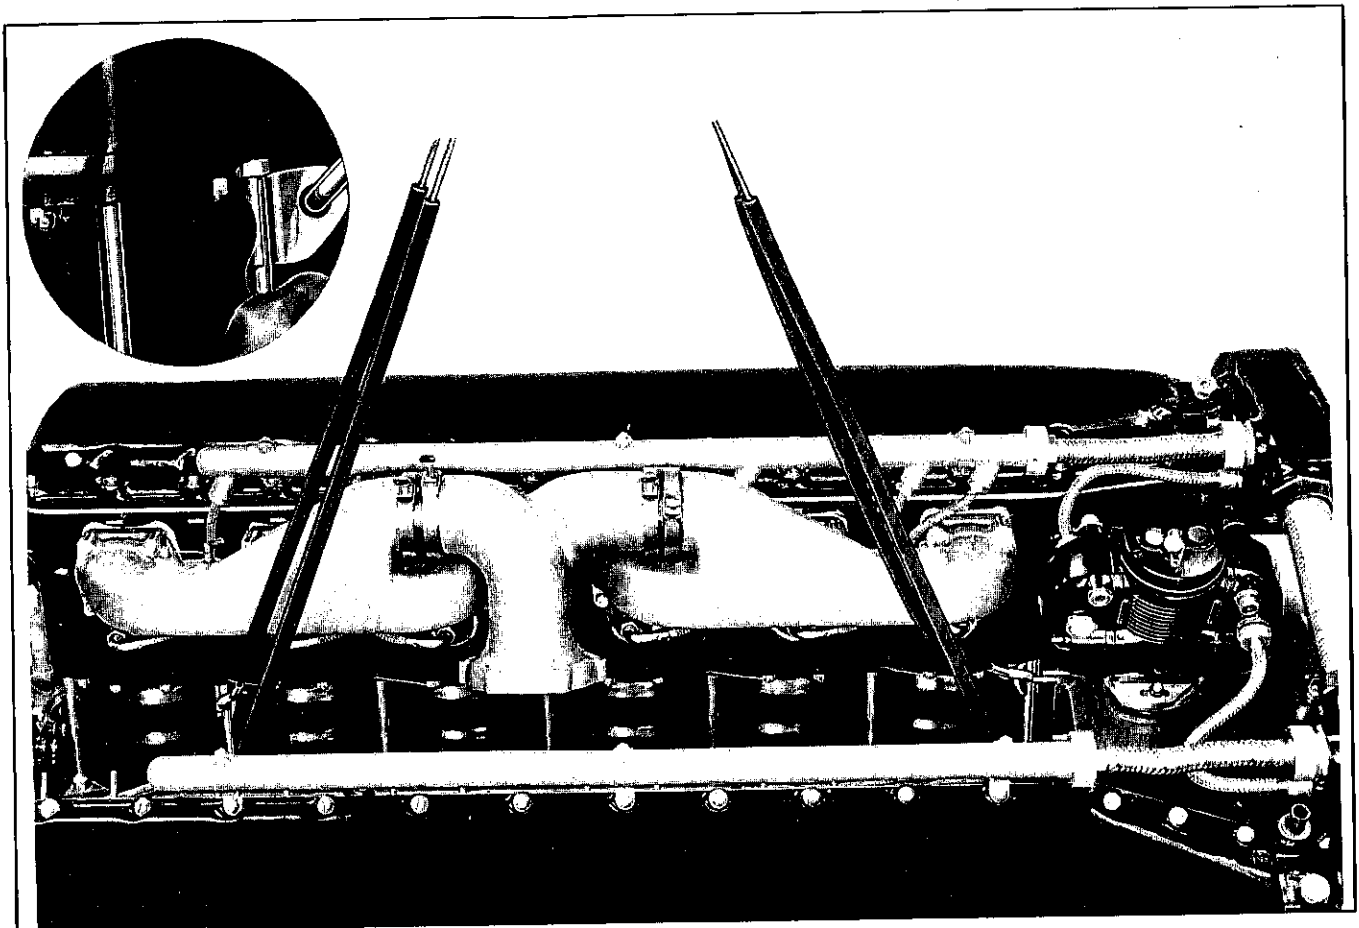

Figure 33—Attaching Engine Lift Sling.
(1) Packing for shipment by air transport requires the use of a special air transport cradle, which prevents the use of the engine envelope and the silica gel bags. Upon arrival at destination, if engine is not going to be placed in service within seven days after arrival, it should be immediately hung with silica gel bags and enclosed in the engine envelope as described in Paragraph 3 *a.* If engine is going into service within a few days and if it is to be left uncovered, all dehydrator plugs should be inspected daily and replaced whenever a relative humidity above 20 per cent is indicated.
c. To remove the engine from the shipping box, remove the $\frac{7}{16}$ " hold down nuts and attach the hoisting sling (No. 2229) as shown in Figure 33. Two of the hooks will be connected to the No. 1 right and left intake studs, and the other two hooks are connected to the No. 6 right and left intake studs. The junction ring of the hoisting sling is secured to the pick-up hook of the hoist.